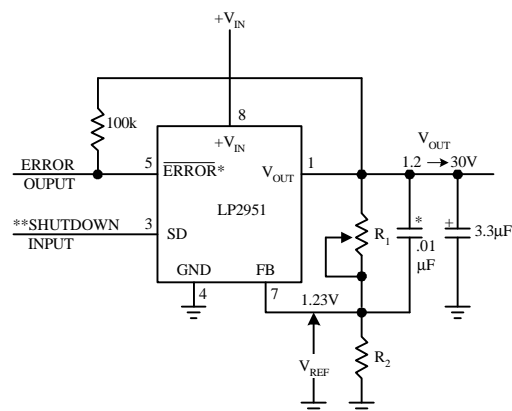

FIGURE 2. Adjustable Regulator
The LP2951 may be pin-strapped for the nominal fixed output voltage using its internal voltage divider by tying the output and sense pins together, and also tying the feedback and V_{TAP} pins together. Alternatively, it may be programmed for any output voltage between its 1.235V reference and its 30V maximum rating. As seen in Figure 2, an external pair of resistors is required.
*When V_{IN} 1.3V the error flag pin becomes a high impedance, and the error flag voltage rises to its pull-up voltage. Using V_{out} as the pull-up voltage (see Figure 2), rather than an external 5V source, will keep the error flag voltage under 1.2V (typ.) in this condition. The user may wish to drive down the error flag voltage using equal value resistors (10 k Ω suggested), to ensure a low-level logic signal during any fault condition, while still allowing a valid high logic level during normal operation.